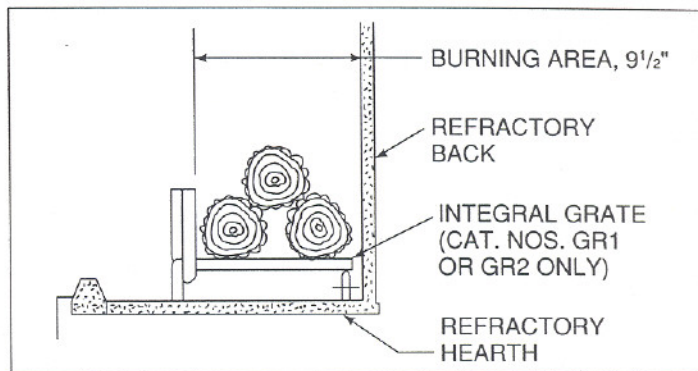

Figure 21
- E. **GRATE.** The factory installed Integral Grate must be used to hold the logs from falling out of an open fireplace and to allow air to pass between the burning logs. It is important to keep the fire off the hearth and to allow the ashes to collect beneath the fire, thereby forming a layer of additional heat protection. See Figure 21. Use only Catalog Number GR1 or GR2 Integral Grate for replacement.
- H. **SETTING THE FIRE.** Check the flue damper to be sure it is fully open. Place crumpled or twisted paper under the Grate. Loosely arrange kindling or small pieces of wood to form a layer above the paper. Place three logs in a rough pyramid as shown in Figure 21, being sure to allow free air space between the logs. Small sticks of wood may be used to separate the logs. Use only solid wood fuel or a listed decorative gas appliance. Do not use a fireplace insert or other products not specified for use with this fireplace. **NOTE: When heated the first time, the temperature of the fireplace must be raised gradually, to prevent moisture within the refractory from causing cracks, and to allow the binders in the insulation to dissipate.**